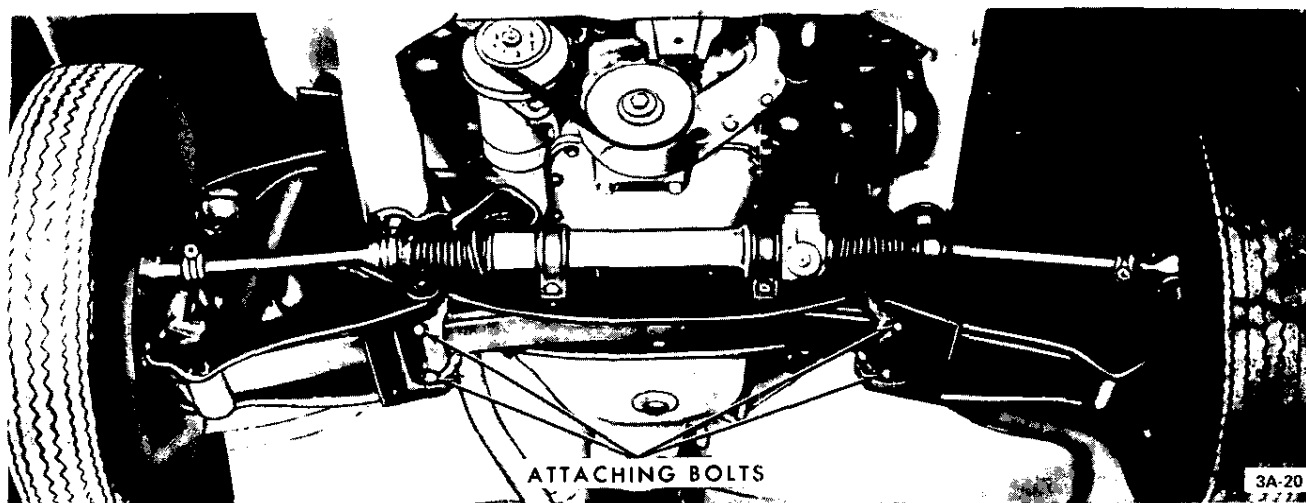

Figure 3A-20 Lower Control Arm Attachment
3. Remove cotter pin from castle nut on ball joint stud and back off castle nut two (2) turns. Hit ball stud a sharp blow to break it loose. **DO NOT REMOVE NUT.**
6. Support rail of spring compressor with a jack. Remove lower control arm from frame cross member. Nuts may have to be removed with a punch. See Figure 3A-20. Discard the lock nuts.